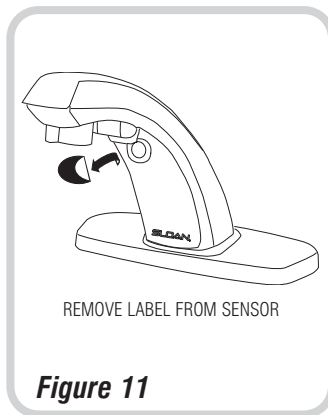

Figure 11
Step 7 — Open Supply Stops and Remove Label from Sensor (Figure 11)